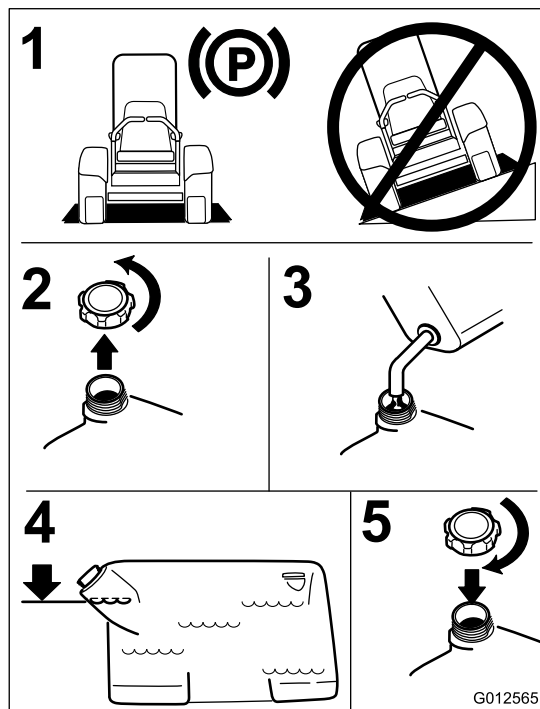

Figure 6
4. Fill the fuel tank to the bottom of the filler neck. Ensure there is empty space in the tank to allow the gasoline to expand (Figure 6).